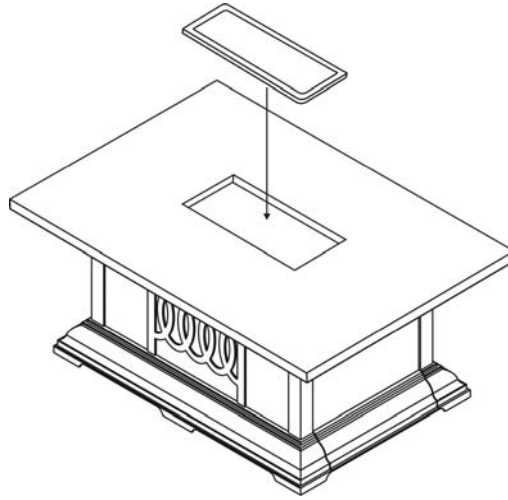

Figure 13
1. Place the burner cover on the table top as shown in Figure13.